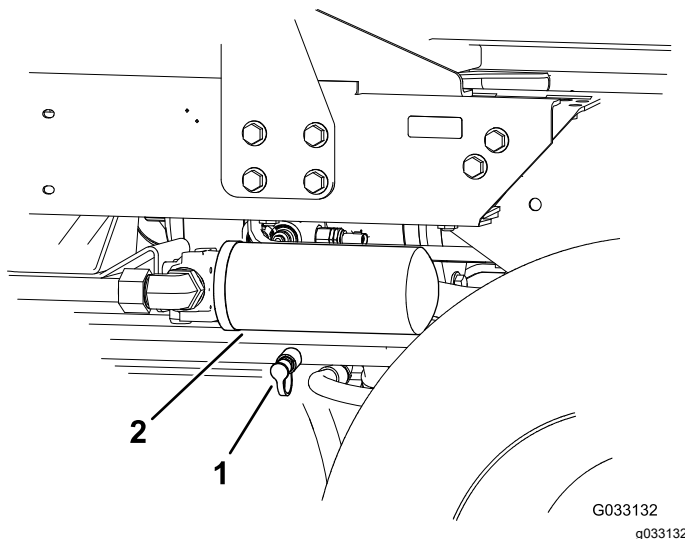

Figure 63
- Connect a hydraulic hose between the diagnostic fitting installed in the rear traction manifold and the reverse traction pressure test port (Figure 63).